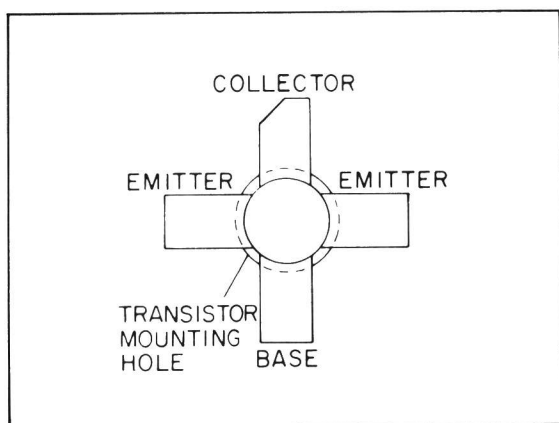

Figure 8 - Lead Identification
4. Trim the new transistor leads (if required) to the lead length of the removed transistor. Cut the collector lead at a 45° angle for future identification (see Figure 8). The letter "C" on the top of the transistor indicates the collector.